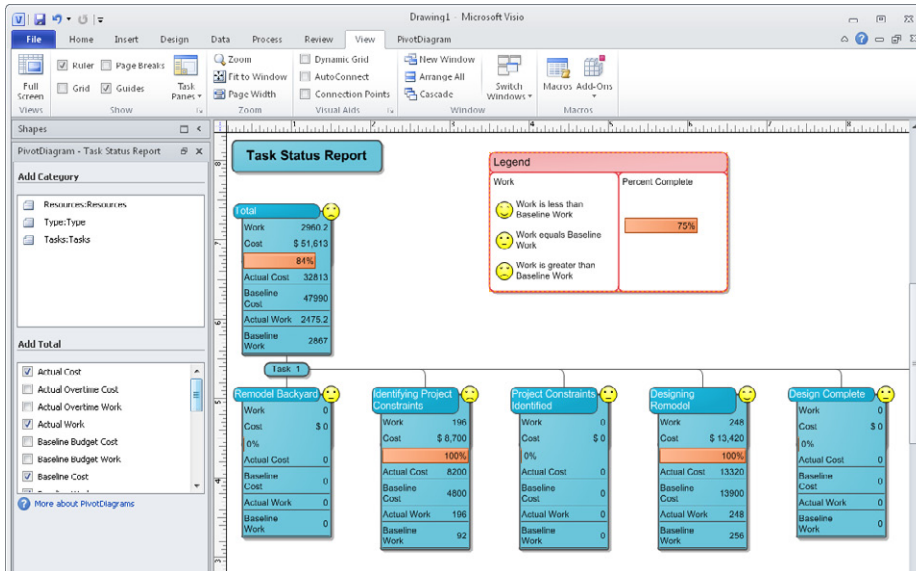

FIGURE 9-8 You can turn on check boxes in the Add Totals section to display fields in the Visio shapes.
- **Task Status** This Visio-based visual report shows work, cost, and percentage complete for top-level tasks, but you can include other fields like baseline work, actual work, baseline cost, and actual cost to evaluate project progress, as shown in Figure 9-8. You can also expand summary tasks in the report to evaluate progress in more detail.